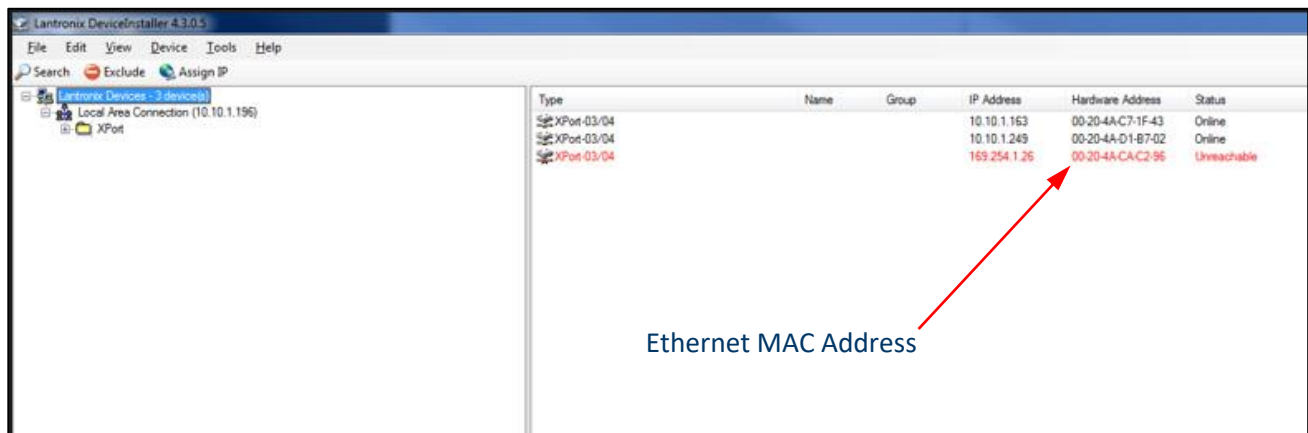

Figure 4-6 Detecting Attached Devices
1. Connect the S1100 to the Ethernet LAN and apply power. Start the Lantronix DeviceInstaller (DI) program on a computer connected to the same LAN. It is suggested the LAN be limited in size to prevent confusion caused by many addresses being discovered. DI will automatically begin searching for attached devices. The Hardware Address (MAC Address) for the SOLAIR 1100 will be displayed as shown in Figure 4-6.